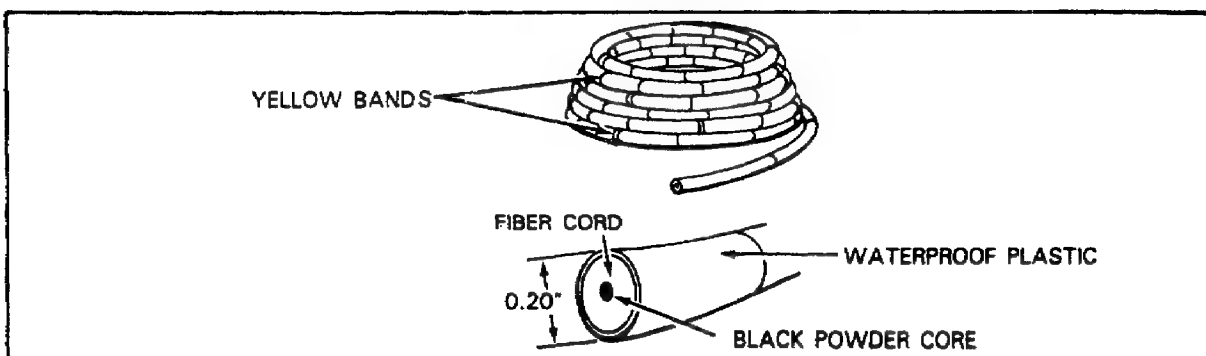

Figure 93. Fuse, Blasting, Time, M700.
**Fuse, Blasting, Time, M700.** This fuse (Figure 93) functions just like safety fuse; but it is covered with plastic, which provides better waterproofing, and its burning rate is more uniform (36 to 44 seconds per foot). It is color coded olive drab with a single yellow band every 18 inches and a double yellow band every 90 inches.